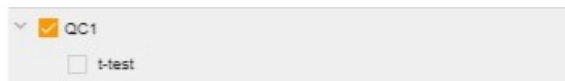

Figure 62: Statistical tests datasets
- An **arrow** next to a dataset indicates that statistical tests have been run on that dataset; click on this **arrow** and select a test result box (see Figure 62) to see visualizations with those results.